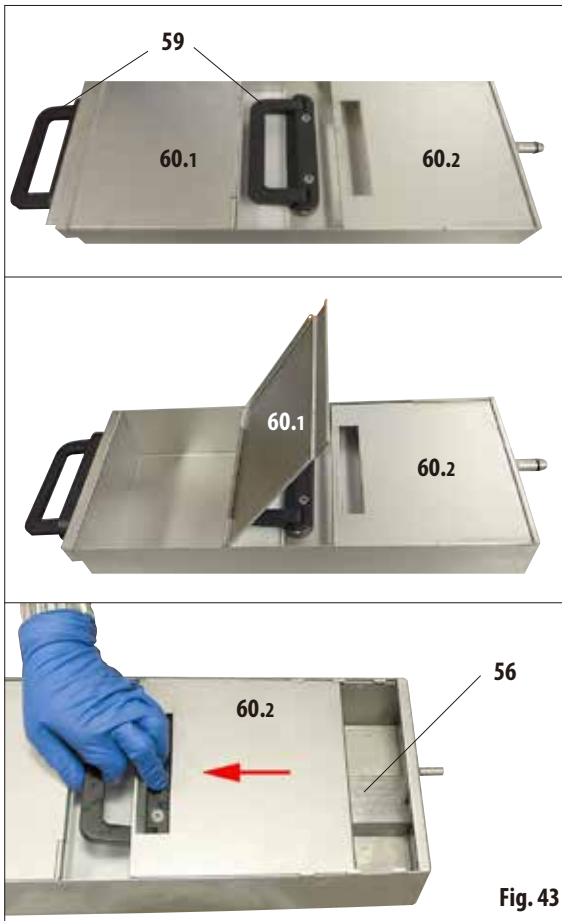

Fig. 43
- All paraffin baths have two handles (59) for pulling out and carrying. Two movable covers (60.1 and 60.2) provide for better thermal insulation and prevent the liquid paraffin from sloshing out when being pulled out (Fig. 43).
- When pulling out a bath, the front (on the left in the image) cover (60.1) can be folded upwards (Fig. 43) to facilitate filling and cleaning.
- The other (in the image, right) cover (60.2) can also be moved and removed for cleaning (Fig. 43, below).
- In each paraffin bath there is a sieve (56) as in the paraffin station to protect the paraffin lines from contamination.